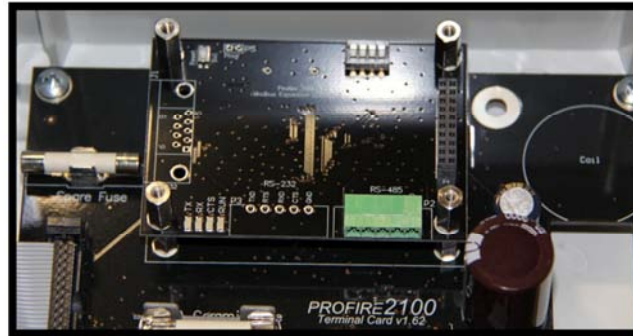

Figure 6
4. Attach the 4 standoffs to the expansion card that is already installed in your PF2100 system. Tighten to 4 in*lbs. Do not over tighten or the standoffs may break. See Figure 6.